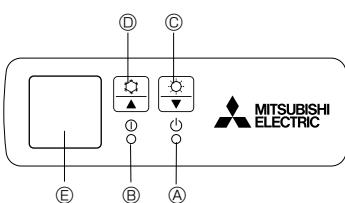

Fig. 9-1
- [Fig.9-1] ① DEFROST/STAND BY lamp
- ② Operation lamp
- ③ Emergency operation switch (heating)
- ④ Emergency operation switch (cooling)
- ⑤ Receiver